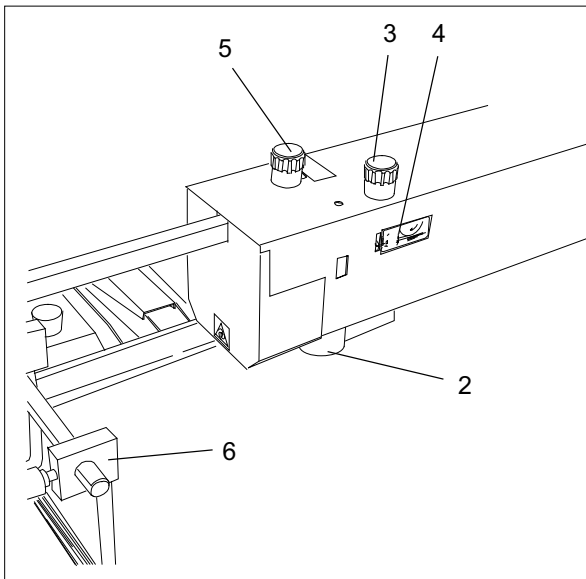

Fig. 18 Stack sensor switch
The stack moves automatically to the correct position, controlled by the stack sensor switch (Fig. 18/2).
3. If the gap is not correct, it can be corrected with the adjustment screw (Fig. 18/3). A scale (Fig. 18/4) facilitates this setting.
5. Loosen the lock screw for the front side stop (Fig. 18/5) by turning it counter-clockwise.
6. Tilt the front stop (Fig. 18/6) to the work position and approach it to the paper stack so that it barely touches it.
7. Secure the lock screw for the front side stop (Fig. 18/5) by turning it clockwise.